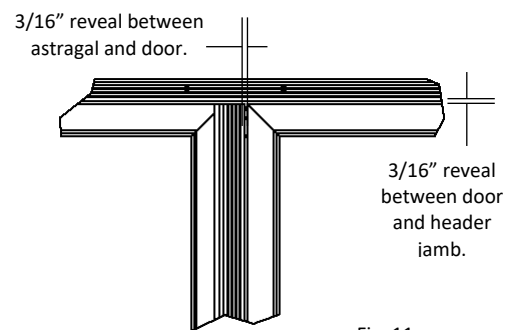

Fig. 11
- Mark the tip of both top and bottom flush rods with a grease pencil. Slide astragal onto “stationary” door, keeping top of astragal flush with the top of door. You will want to have 3/16" reveal between “stationary” door and the “swing” door. (Fig. 11) Use (5) #8 x 3/4" self-tapping screws to fasten astragal onto “stationary” door from the inside. Keep screws